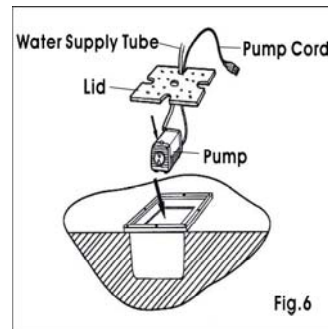

Fig.6
- Attach one end of the Water Supply Tube onto the bottom of the Fountain Upright and the other end onto the Pump outlet. Place the Pump in the desired location in the PVC Liner Basin (Fig. 6).
- Route Water Supply Tube and the Pump power cord out through the hole in the edge of the Lid and then place the Lid on the Outer Frame (Fig. 6).